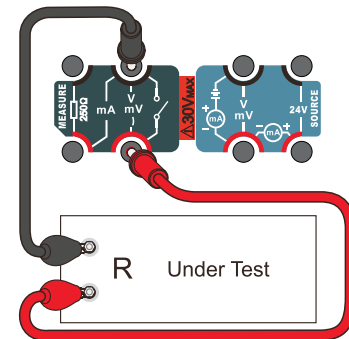

Figure 9.11 Loop integrity test
1. Refer to Figure 9.11 to connect test leads and begin to measure.